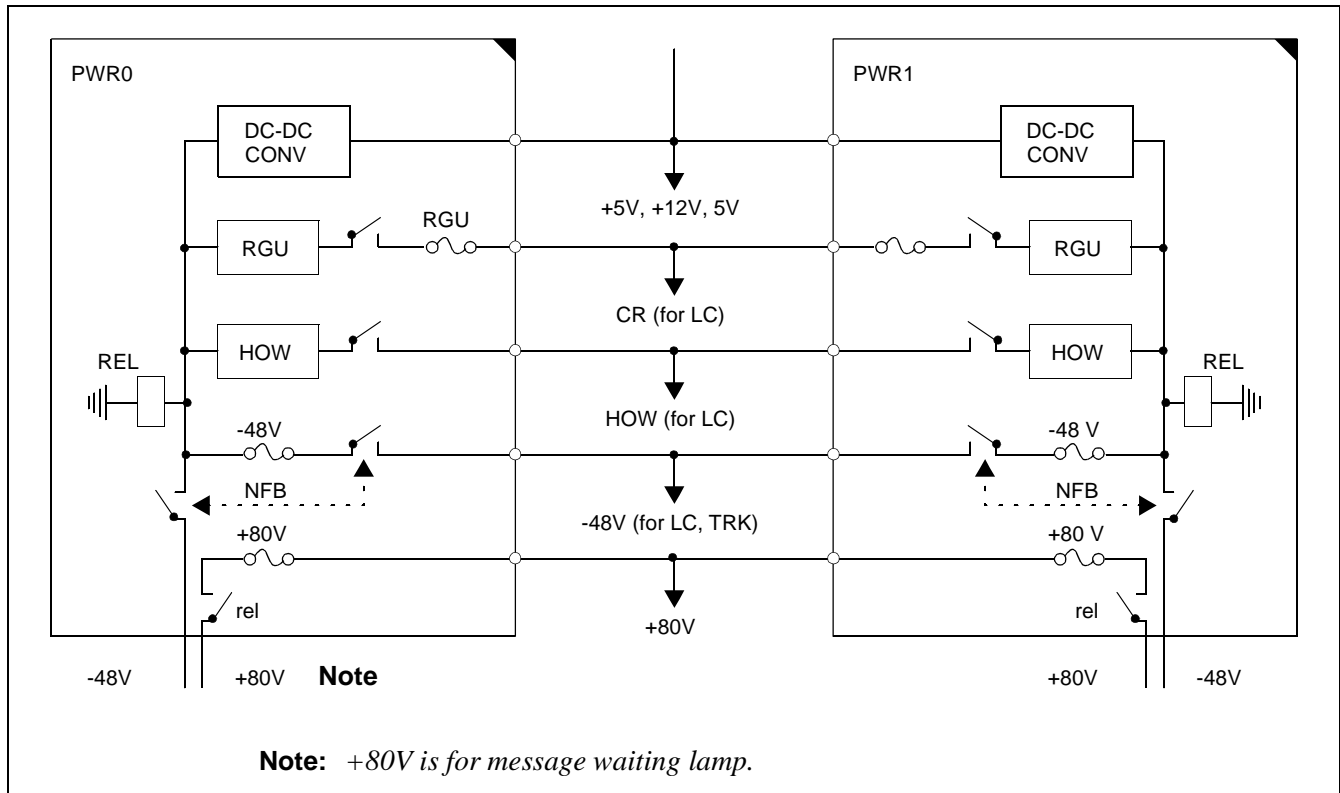

Figure 5-18 Power Supply to PIM
(4) Figure 5-18 shows the power supply system for PIM.